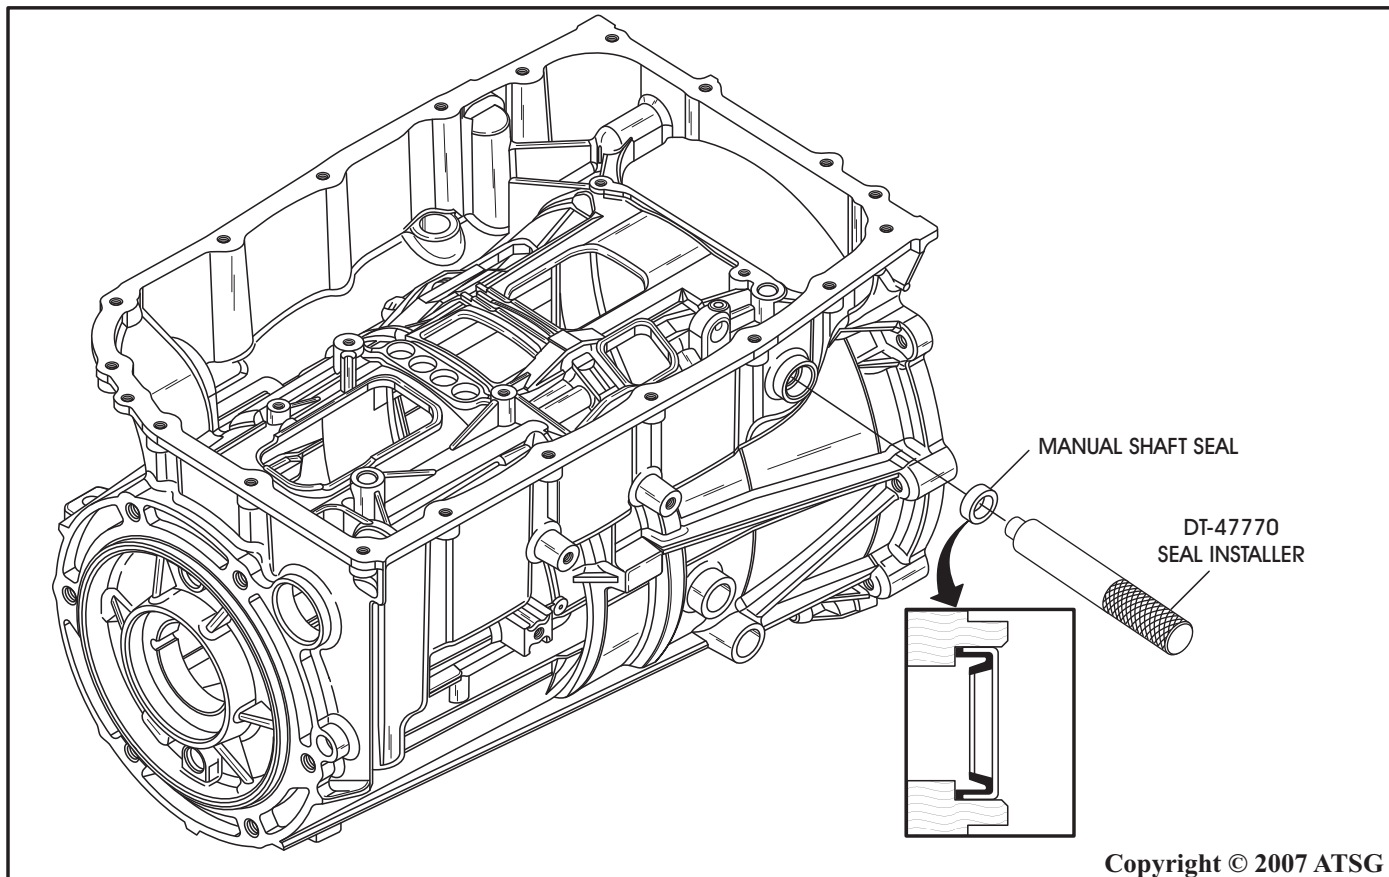

Figure 55
4. Remove and discard the manual shaft seal, as shown in Figure 55.
5. Install a new manual shaft seal using the proper installation tool, as shown in Figure 55, and ensure that it is fully seated in the bore.